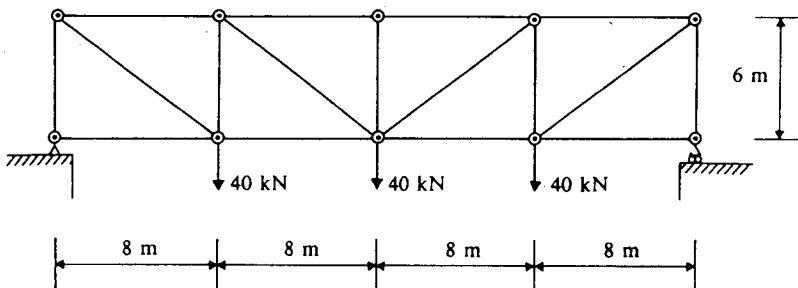

FIGURE 2
- (a) The steel pin-jointed truss shown in Figure 2 is designed to support the loads shown over the span of 32m. Some of the constraints on design are that (i) all members must be of the same cross-section, (ii) the stress in any member shall not exceed 150N/mm^2 , and (iii) the maximum deflection below the supports shall not exceed 40mm. Determine the minimum cross-section area of the members to satisfy these requirements given that the value of the modulus of elasticity E is 200kN/mm^2 . (12)